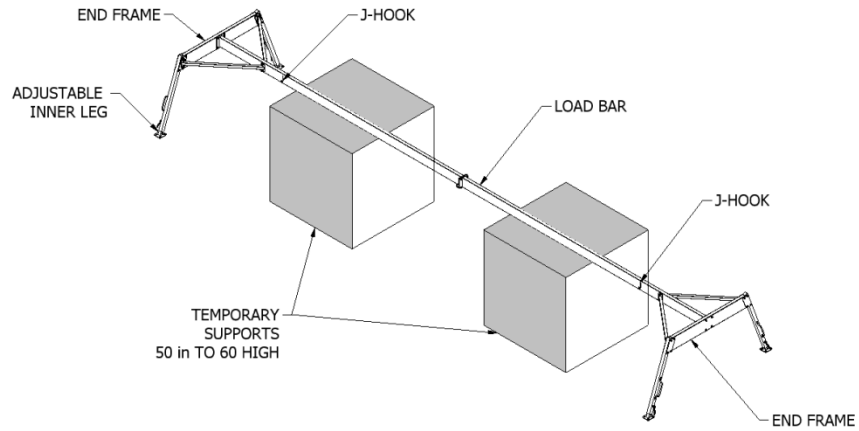

FIGURE-1
4. The scaffolding that is listed with the tools needed to assemble the Linemen Chute is used to support the load bars during assembly. The load bars weigh approximately 200 pounds and if scaffolding is not available, you will need some type of support to keep the load bar raised up at between 50 and 60 inches while the two halves of the load bar are assembled and then while the end frames are assembled to the load bar. **(SEE FIGURE -1)**